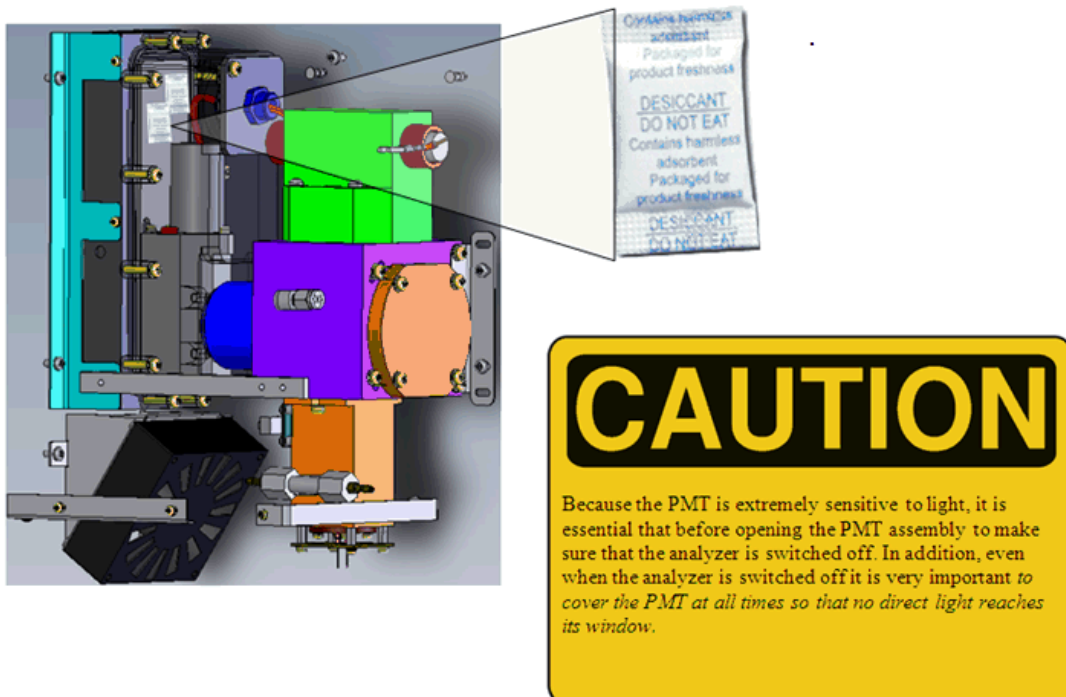

Figure 27 Position of desiccant packs
3. Remove the old desiccant packs and replace with new (see Figure 27). Do not attempt to dry and reuse the old packs.